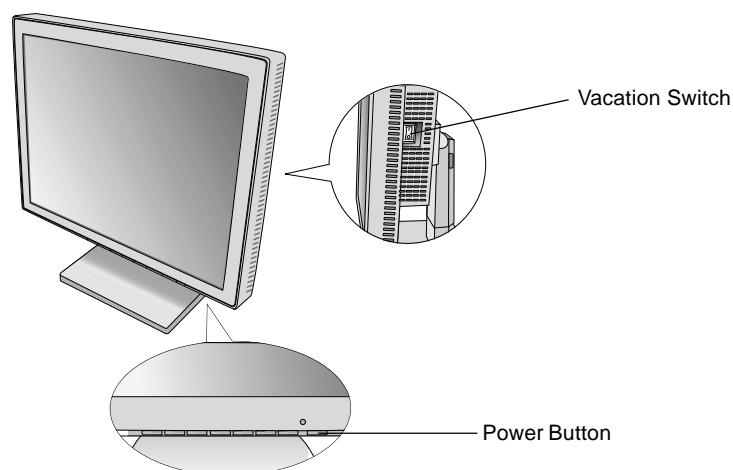

Figure D.1
5. The Vacation Switch on the right side of the monitor must be turned on (**Figure D.1**). Turn on the monitor with the Power Button and the computer.